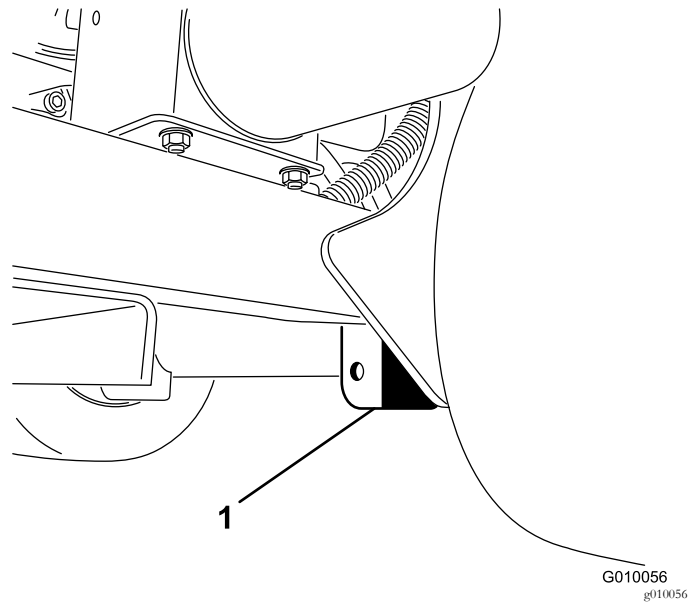

Figure 41
3. Place the jack securely under the frame plate just inside of the rear wheel (Figure 41).